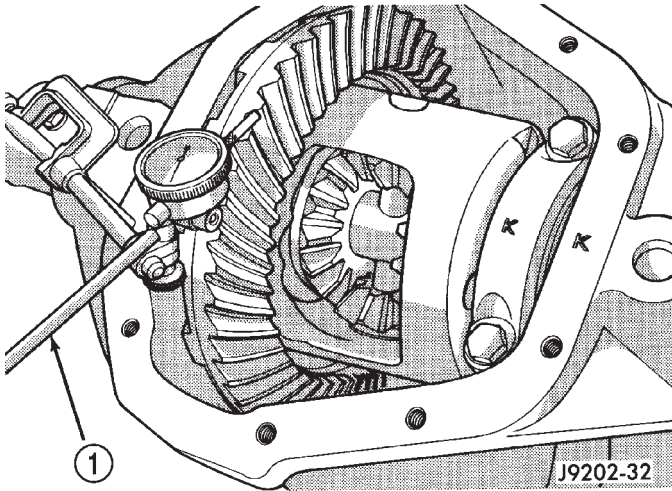
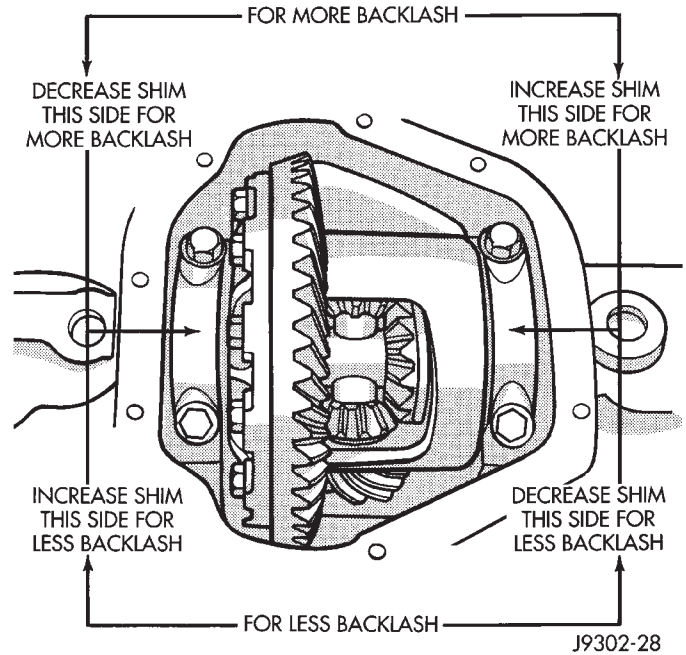

Fig. 77 Ring Gear Backlash Measurement
Fig. 78 Backlash Shim Adjustment
(24) Record dial indicator reading.
(25) Subtract 0.002 in. (0.05 mm) from the dial indicator reading to compensate for backlash between ring and pinion gears. This total is the thickness of shim required to achieve proper backlash.
(26) Subtract the backlash shim thickness from the total preload shim thickness. The remainder is the shim thickness required on the pinion side of the axle housing.
(27) Rotate dial indicator out of the way on guide stud.
(28) Remove differential case and dummy bearings from axle housing.
(29) Install new side bearing cones and cups on differential case.
(30) Install spreader W-129-B, utilizing some components of Adapter Set 6987, on axle housing and spread axle opening enough to receive differential case.
(31) Place side bearing shims in axle housing against axle tubes.
(32) Install differential case in axle housing.
(33) Rotate the differential case several times to seat the side bearings.
(34) Position the indicator plunger against a ring gear tooth (Fig. 77).
(35) Push and hold ring gear upward while not allowing the pinion gear to rotate.
(36) Zero dial indicator face to pointer.
(37) Push and hold ring gear downward while not allowing the pinion gear to rotate. Dial indicator reading should be between 0.12 mm (0.005 in.) and 0.20 mm (0.008 in.). If backlash is not within specifications transfer the necessary amount of shim thickness from one side of the differential housing to the other (Fig. 78).